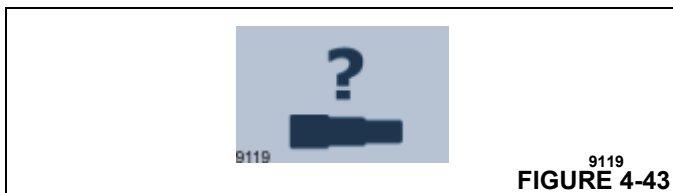

FIGURE 4-43
- Enter the request reset telescoping screen on the Operating Display Module (ODM). Figure 4-43 shows the icon for this screen.